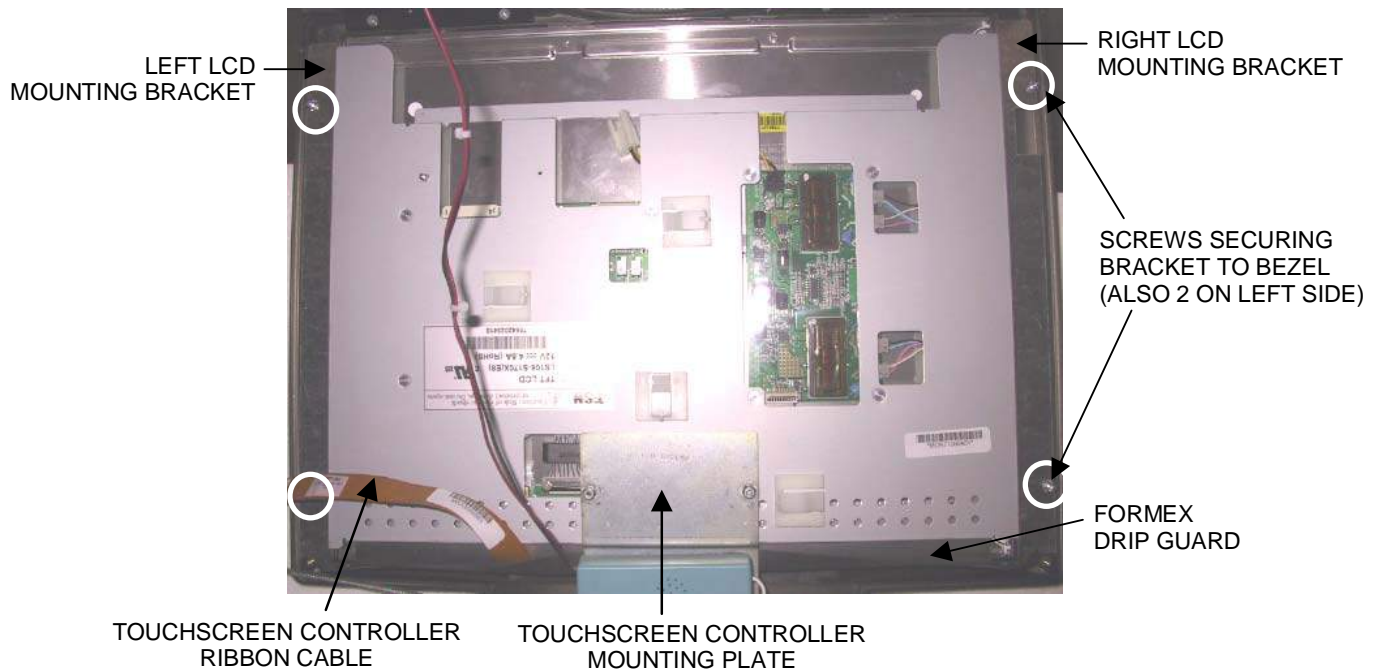
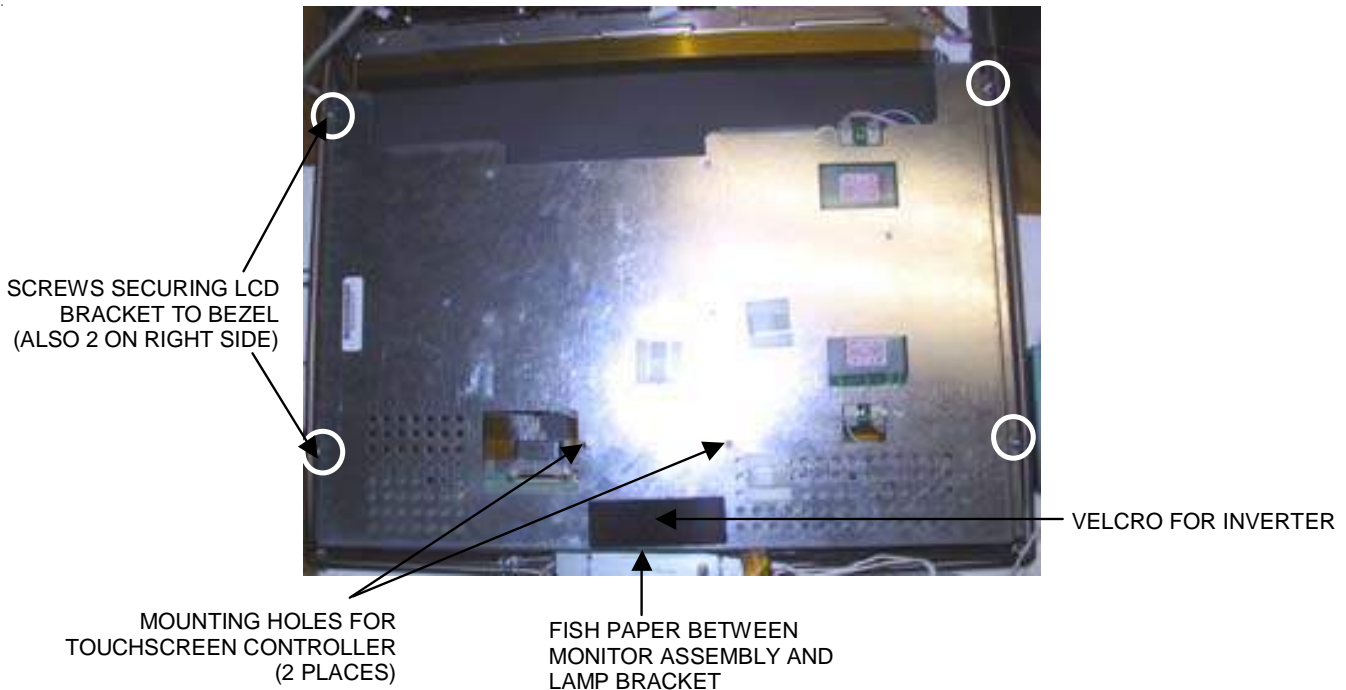

FIGURE 8 - REAR VIEW OF 17" MONITOR
FIGURE 9 - REAR VIEW OF 19" MONITOR
13. Remove the 4 screws securing either the left and right LCD mounting brackets to the bezel (17") or the LCD bracket to the bezel (19" and Widescreen), then carefully slide the monitor assembly out of the bezel. See Figure 8 for 17" games, Figure 9 for 19" and Widescreen games.
14. For 17" games: Remove the 4 screws securing the LCD mounting brackets to the monitor (2 per bracket). If replacing the monitor, remove the fish paper/foam tape strip attached to the top edge of the monitor. See Figure 8.
2. *If replacing only the monitor:* Carefully place the touchscreen over the new monitor in the same manner it was attached to the old monitor, making sure that the screen is properly and evenly aligned over the monitor glass. Clean the front of the touchscreen with an alcohol wipe once it is in place. Reattach the fish paper foam tape strip to the top edge of the monitor (17" games only; see Figure 8). You may need to attach the provided wire clamps to the rear of the monitor assembly. If so, note their location on the rear of the monitor your removed.
*If replacing both the monitor and the touchscreen:* Carefully place the new touchscreen over the new monitor in the same manner that the old touchscreen and monitor were attached, making sure that the screen is properly and evenly aligned over the monitor glass. Clean the front of the touchscreen with an alcohol wipe once it is in place. Reattach the fish paper foam tape strip to the top edge of the monitor/touchscreen assembly (17" games only; see Figure 8). You may need to attach the provided wire clamps to the rear of the monitor assembly. If so, note their location on the rear of the monitor your removed.
3. *For 17" games:* Replace the left and right mounting brackets on the monitor and secure each with 2 screws. Carefully slide the new monitor into the bezel, making certain that the edge of the monitor with the fish paper is secured underneath the touchscreen controller's mounting plate. Ensure that the monitor is properly centered, then secure the mounting brackets to the bezel with 4 screws. See Figure 8.
*For 19" and Widescreen games:* Carefully slide the new monitor assembly into the bezel, making sure (on standard 19" models) that the strip of fish paper is secured between the edge of the assembly with the Velcro and lamp mounting bracket. Ensure that the monitor is properly centered, then secure the LCD bracket to the bezel with 4 screws. See Figure 9.